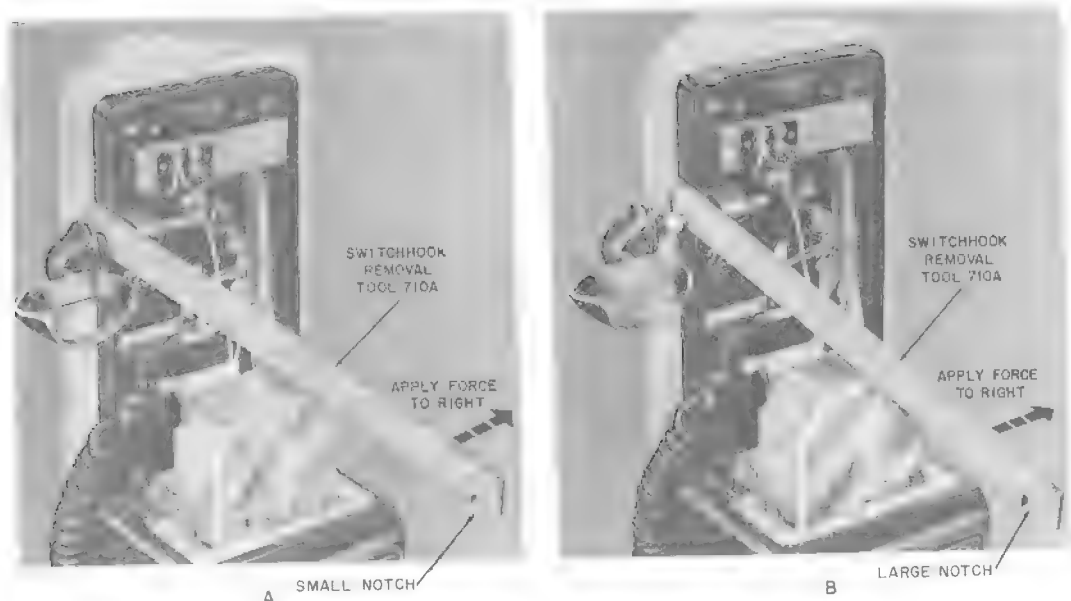

Fig. 23—Removal of One-Piece Switchhook Located in Corner
- (1) Perform operations outlined in 2.32 (1).
- (2) Place the larger notch of a 710A bending tool on the switchhook hub as shown in Fig. 23, View A. Apply force on the tool as shown and move the switchhook out, bending it slightly.
- (3) Having partially bent the shaft, move the switchhook to the left. Place the smaller notch of the bending tool over the shaft as shown in Fig. 23, View B. Apply force on the tool as shown.
- (4) Continue moving the switchhook to the left and applying additional bends as needed to remove the switchhook.